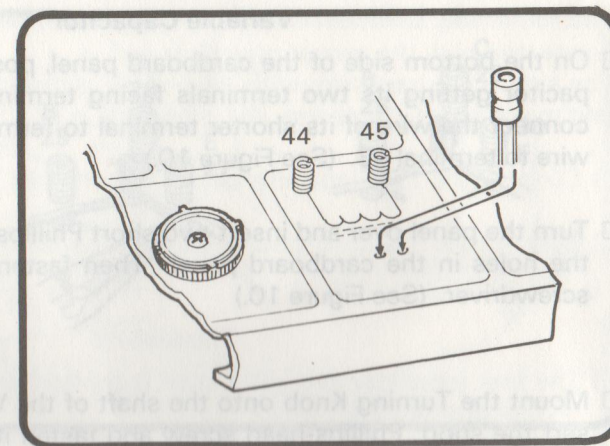

FIGURE 11
- ☐ From the top of the cardboard panel, insert the two leads of the Choke Coil through the holes next to its schematic symbol. (See Figure 11.) Then on the bottom side of the panel, connect the leads to terminals 44 and 45.